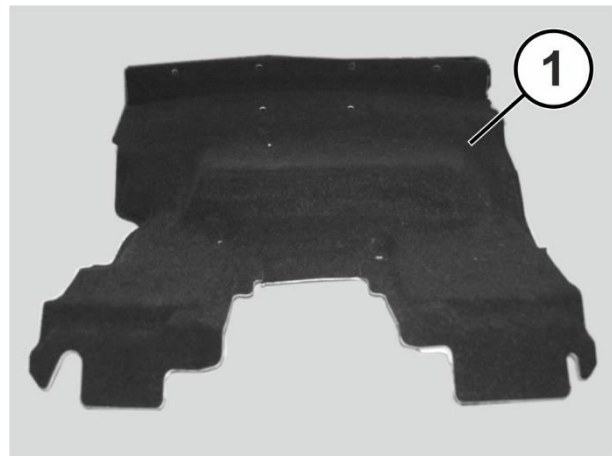

Figure 19 – Compartment Carpet
41. Remove the convertible top compartment carpet (1) from the vehicle (Figure 19).
18. Install the convertible top compartment carpet (1) in the vehicle (Figure 19).